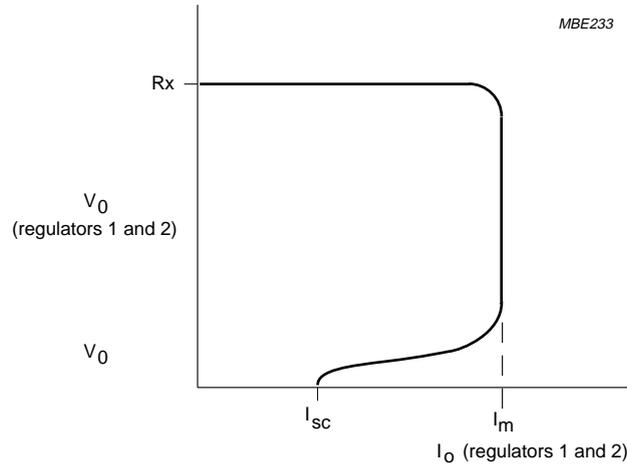

Fig.5 Foldback current protection of the regulators.
CHARACTERISTICS $V_P = 14.4\text{ V}$; $T_{amb} = 25\text{ °C}$; see Figs 5 and 6; unless otherwise specified.
8. At current limit, I_{REGm} is held constant (behaviour in accordance with the broken line in Fig.5).
9. The foldback current protection limits the dissipated power at short-circuit (see Figs 5 and 6).